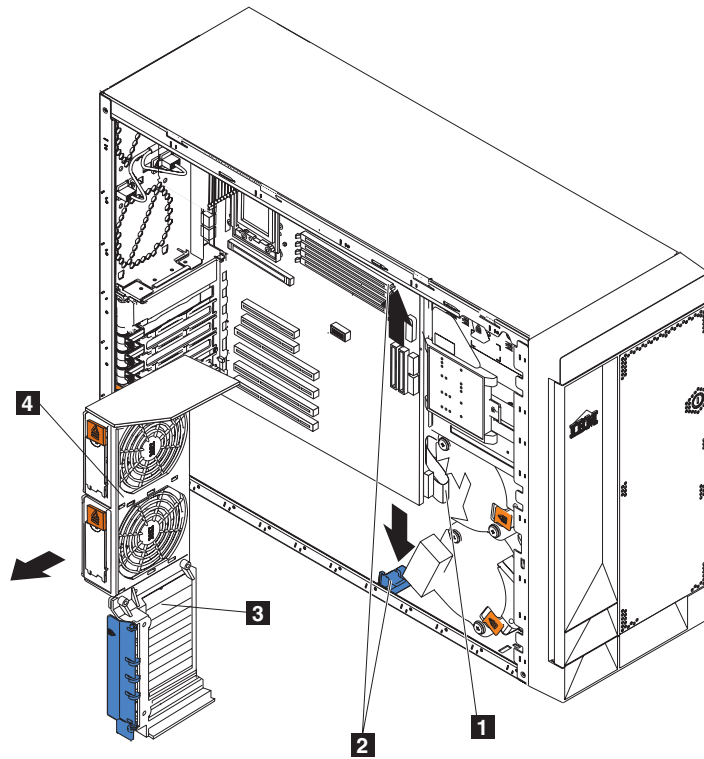
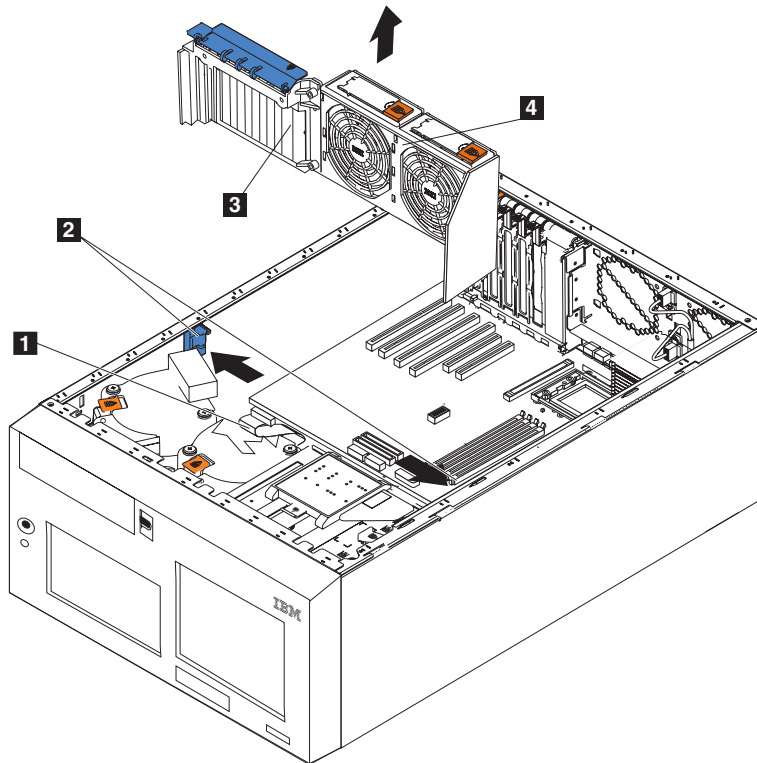

Figure 40. Removing the adapter-support bracket (Model 25T)
Figure 41. Removing the adapter-support bracket (Model 25T with the rack-mount conversion feature)
8. Remove the adapter-support bracket (see Figure 40 on page 103 or Figure 41 on page 104).